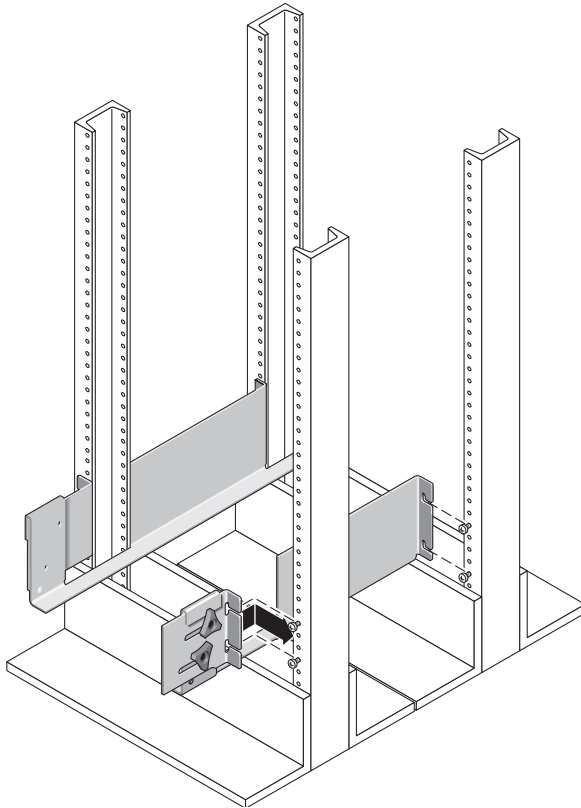

FIGURE 2-24 Installing the Mounting Rail on the Front and Back Posts
2. Loosen, but do not remove, the two hand knobs on the adjustable bracket at the back of the left rail. Align the back bracket of the left mounting rail so it fits against the back post, and then tighten the two knobs (FIGURE 2-24). Repeat for the right rail.
3. Align the open slot of the left mounting rail over the front and back screws of the left post, and press the rail down until it is seated over the screws (FIGURE 2-24). Repeat for the right rail.